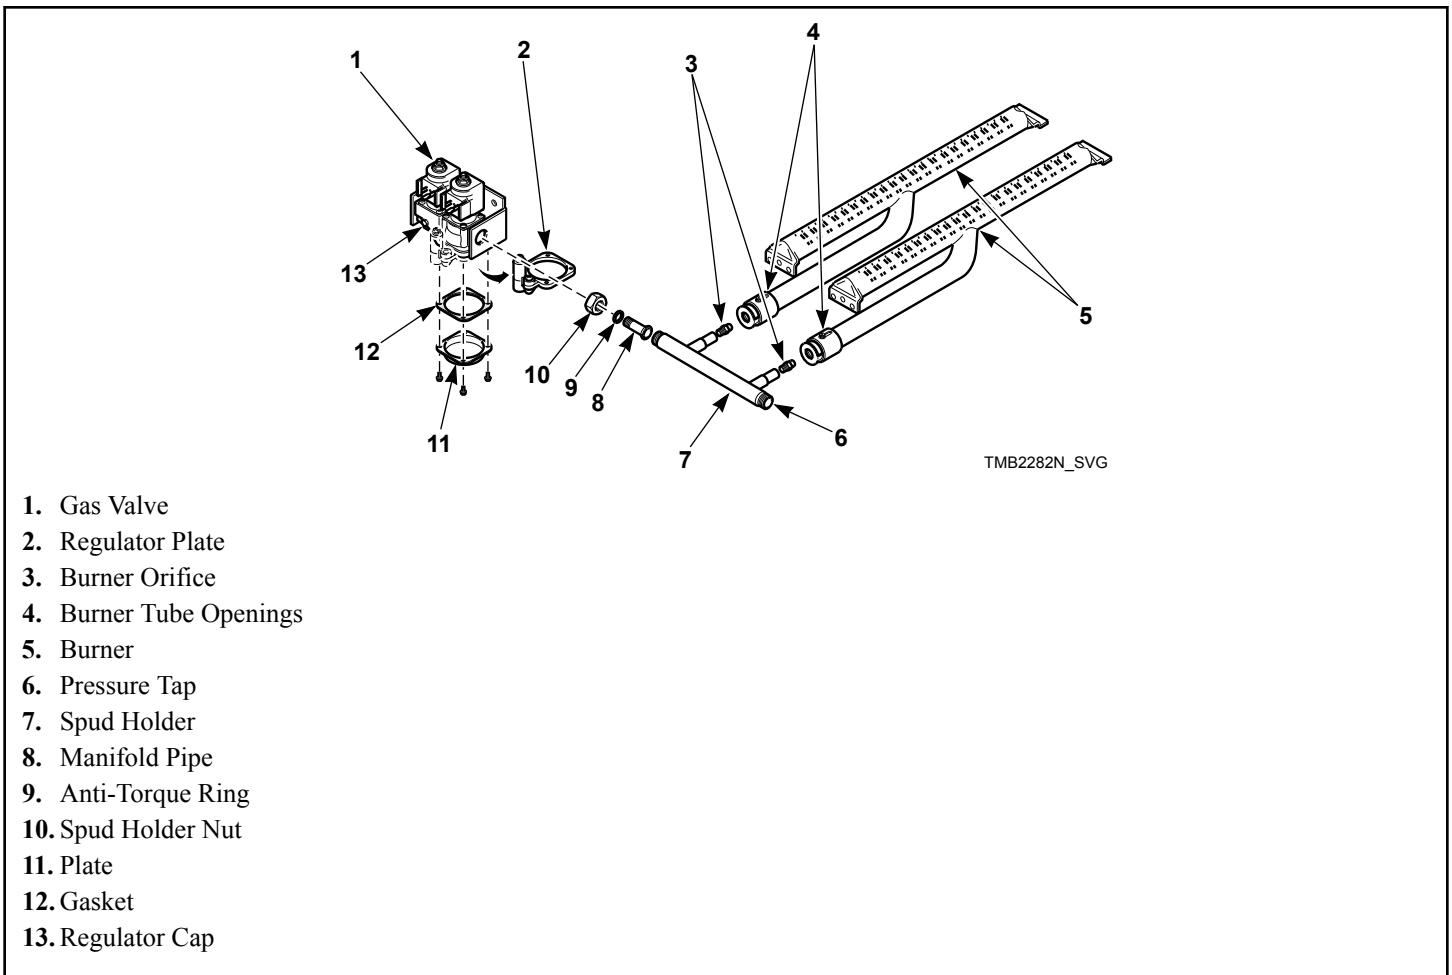

Figure 16
2. Remove spud holder. Unscrew spud holder nut near gas valve. Remove the burner orifice(s) from spud holder. Refer to *Figure 16*.